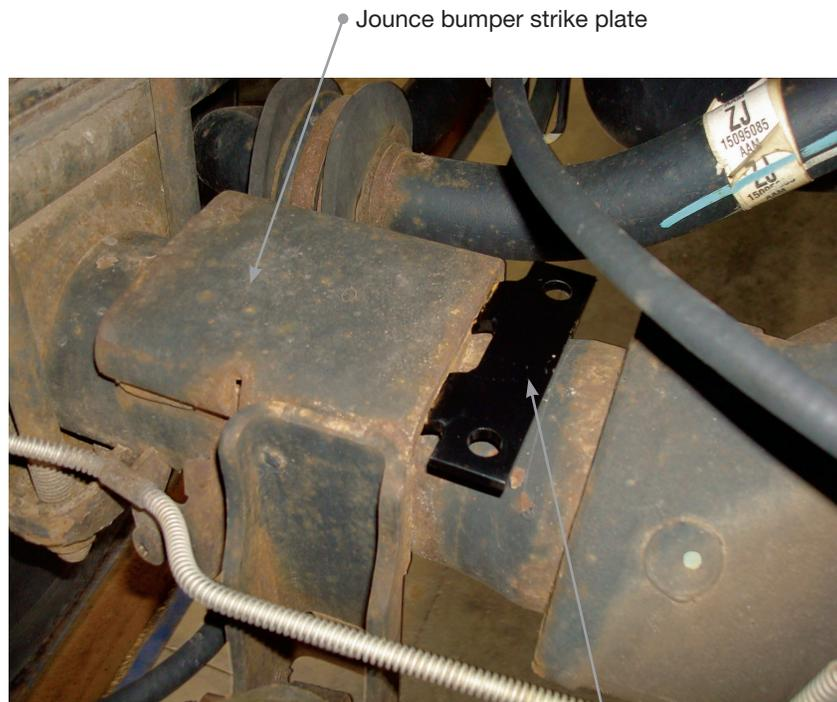

fig. 4
1. Set the clamp (E) into position under the jounce bumper strike plate that is welded to the axle (Fig. 4).